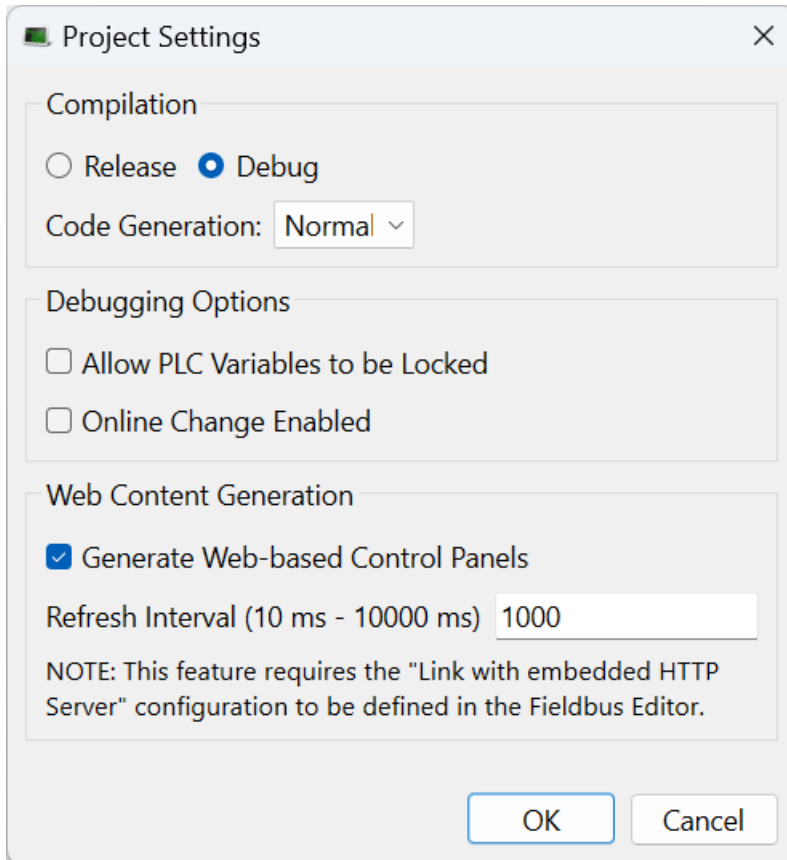

Figure 2-5: Project Settings dialog box
2. In the **Web Content Generation** section, select the **Generate Web-based Control Panels** check box. (Figure 2-5)